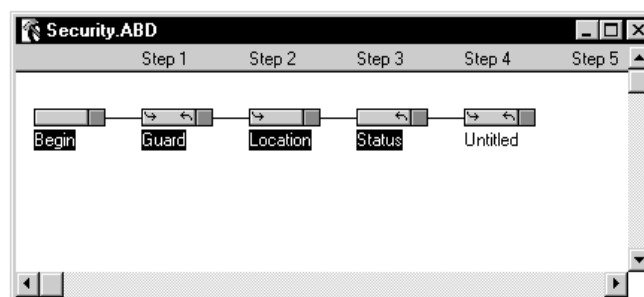

Figure 4-5 New Input Handler Added
5. A new Input Handler is added to the application (Figure 4-5).